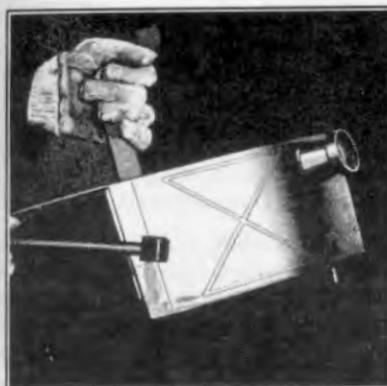

Fig. 419
- 840** The top should then be drawn up to fit the flange of the wall as closely as possible and tacked to it with a little solder on the iron at two or three points. Hold the rivet-bucker or some other piece of bar metal against the inside of the joint formed by the header and the top, and flatten the joint with a hammer as shown in Fig. 419. Flatten the other side in the same way; the top is then ready to solder.